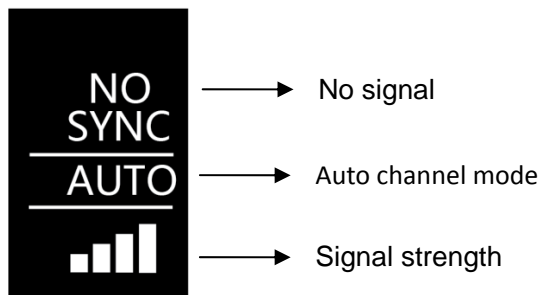

Fig.1
(When Tx and Rx both have no signal connection, Tx and Rx display the same. Fig.1)
(1) Connect the SDI in/HDMI in interface of the FLOW2000 transmitter to the SDI out/HDMI out of the camera or video output device.
(2) Connect the SDI out/HDMI out interface of the FLOW2000 receiver to the SDI in/HDMI in of the monitor or switch station.
(3) Connect the Power supply of FLOW2000 transmitter and receiver, the "Power" light will light up, the OLED screen will display " WAIT..." , and then jump to the boot interface, as shown in figure 1. Start the machine and wait for a period of time. The transmitter and receiver have recognizable signal input and establish connection, and the "Link" and "Video" lights are constant on. If the transmitter and receiver have recognizable signal input but fail to establish a connection, the "Link" light will flash.